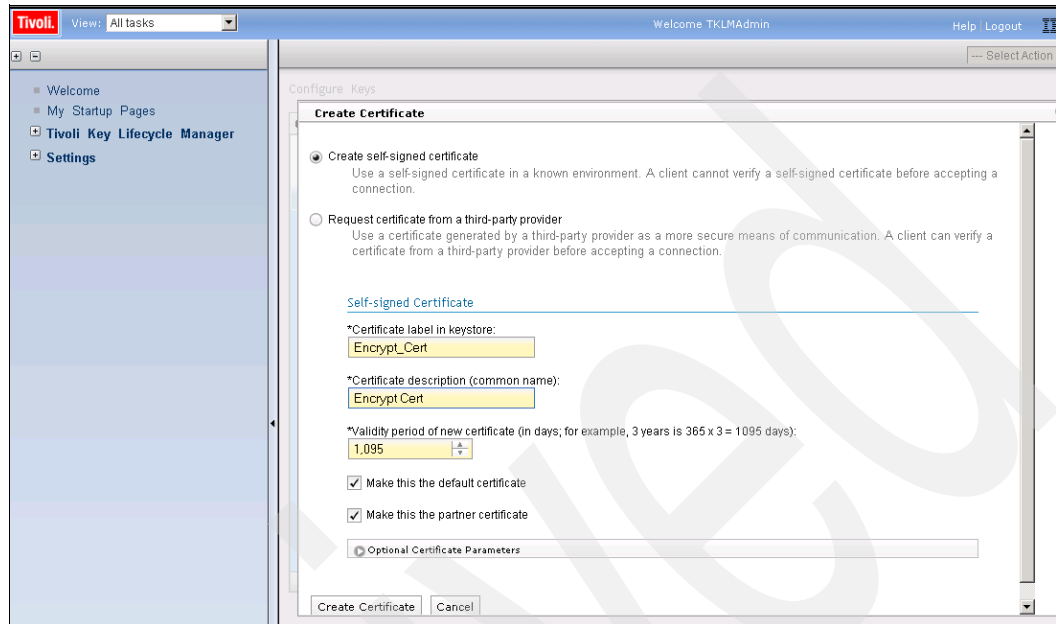

Figure 9-56 Create a self-signed certificate
4. On the **Create certificate** panel select **Create self-signed certificate** and make the appropriate entries in the label, description, and validity period fields. Click **Create Certificate** (Figure 9-56).